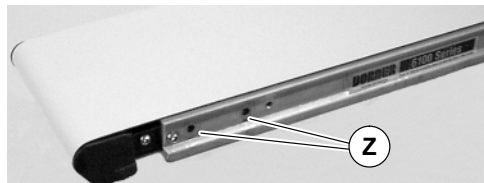

Figure 7
5. On side opposite drive output shaft, remove two (2) screws (Z of Figure 7).